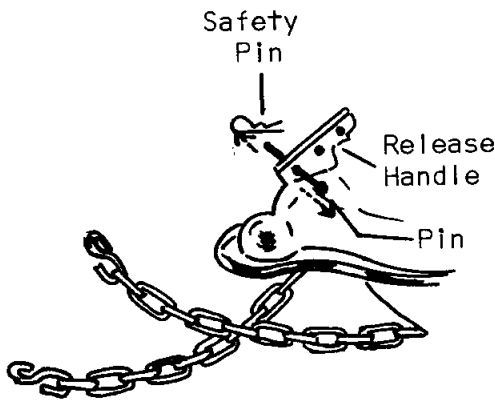

FIGURE 1
3. Disconnect electrical pigtail and safety chains; raise the coupler release handle. See Figure 1.